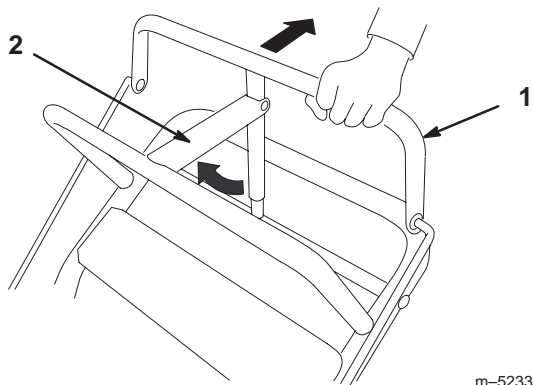

Figure 14
2. Lift the parking brake lock (Fig. 14) up and gradually release the upper control bar. The brake lock should stay in the set (locked) position.
1. Pull rearward on the upper control bar (Fig. 14). Lower the parking brake lock to the released position.